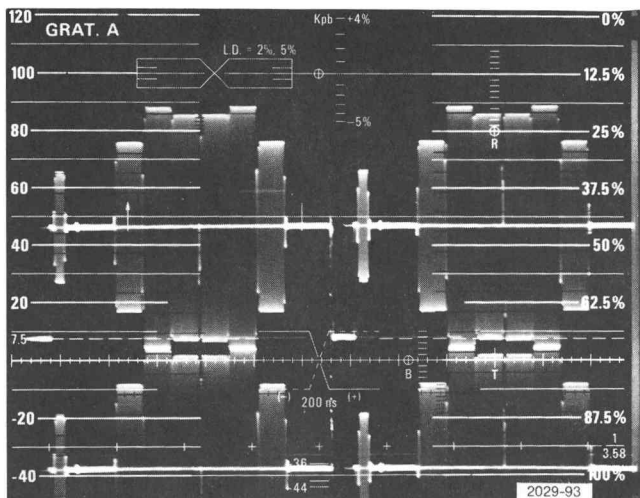

Fig. 4-7. Waveform display showing the red color bar peaks just overlaying.
a. Push in the TSG1 FULL FIELD, AMPL (75%), and SETUP (7.5%) pushbuttons. Push in the 1480 Oper and Cal pushbuttons and use the Calibration Fixture to measure chrominance amplitudes. Fig. 4-7 shows the waveform for measuring the red color bar with the 1480 Calibration Fixture.